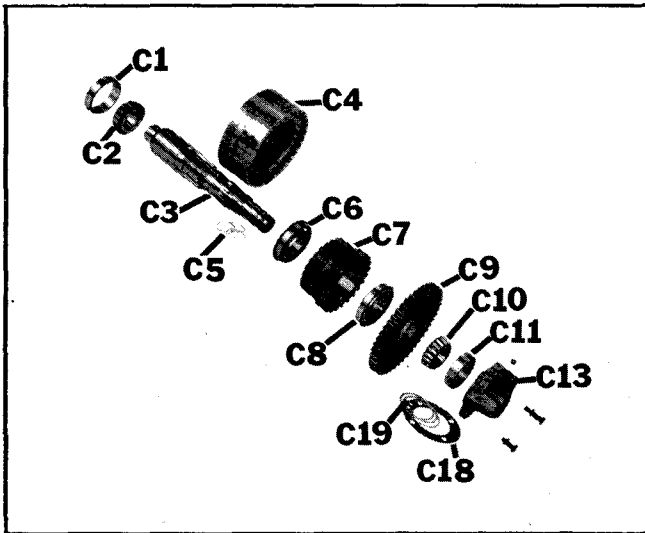

Figure 22
2. Press shaft (C-3) from clutch assembly (C-4) (Figure 22).